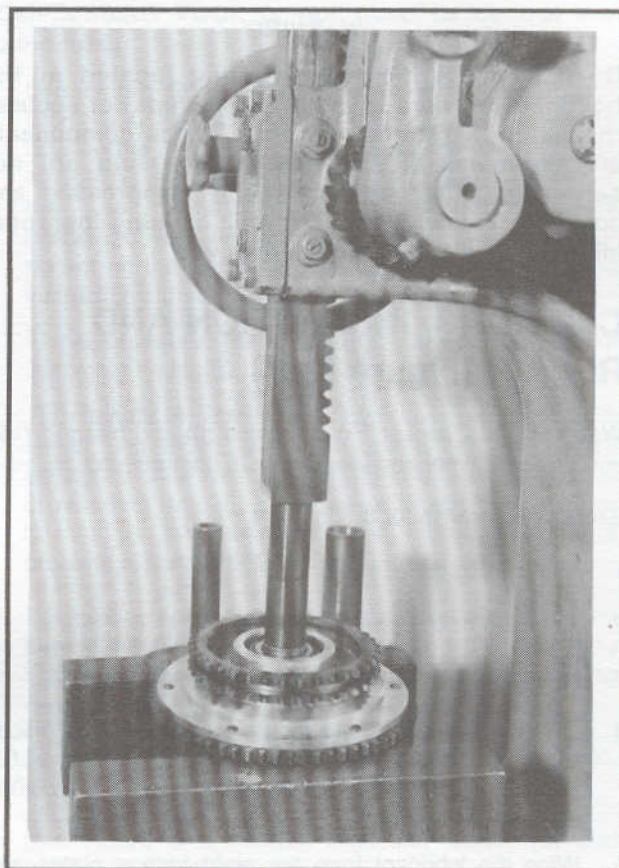

Figure 6-15. Press Clutch Hub From Bearing
3. See Figure 6-15. Press clutch hub from inner bearing race with arbor press.